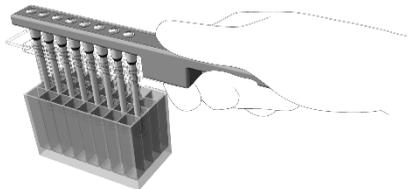

Figure 7. Collecting magnetic beads from **column 2**.
16. Using the IndiMag Handheld with the rod cover, slowly mix 10 times up and down to collect the magnetic beads from **column 2** (Figure 7). Wait until all the magnetic beads have attached to the rod cover.